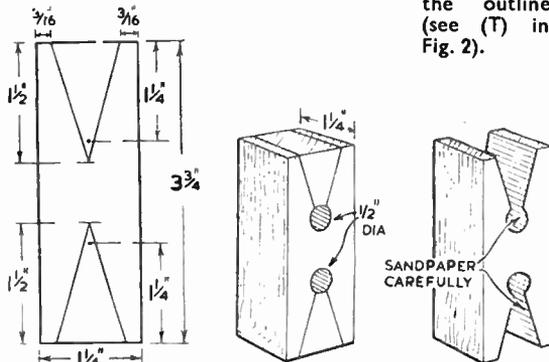

Fig. 1—Marking out, and cutting the clown block
The toy is by no means difficult to make, nor will it take long to construct. Fig. 1 shows three stages in making the clown block. A piece of wood of $1\frac{1}{2}$ ins. section and $3\frac{3}{4}$ ins. long is
marked out, as in Fig. 1 (A). Holes, $\frac{3}{16}$ in. diameter, are then bored through, as seen in (B) Fig. 1, and finally the block is gripped in the vice and the wedge-shaped pieces cut out with a tenon saw. It is most important to get these openings quite smooth. Bored holes may be rough, so it will be necessary to get busy with the glasspaper.